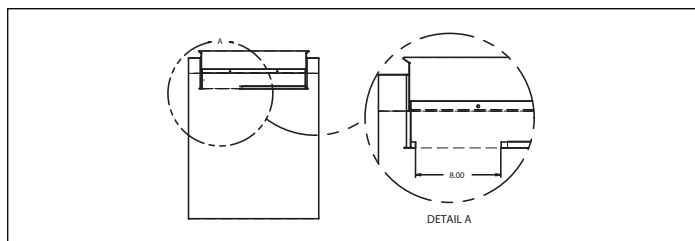

Figure 1
- Make a second cut 8" from the left corner. The gasket should peel away from the plenum leaving a clean mounting surface (See Figure 1).